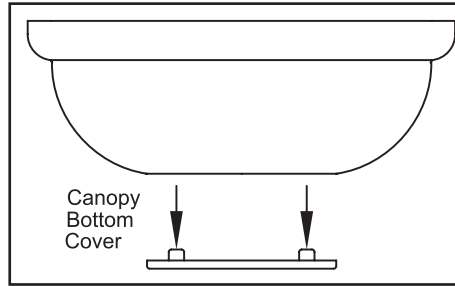

Figure 9
3. Remove the decorative canopy bottom cover from the canopy by depressing the three studs (Figure 9).